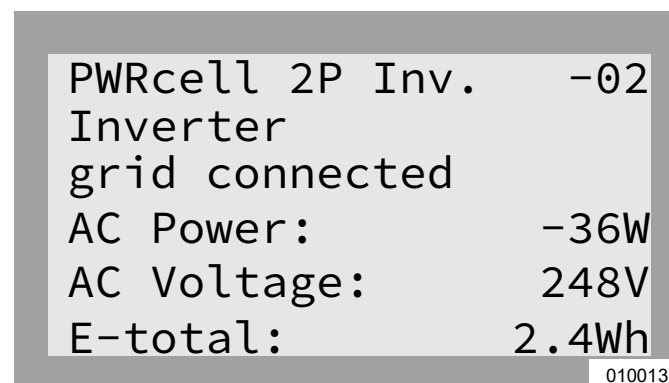

Figure 6-10. Inverter Enabled (4 of 4)
6. See Figure 6-10. The inverter is enabled. It will create voltage at the DC terminals and begin communicating with connected REbus devices.